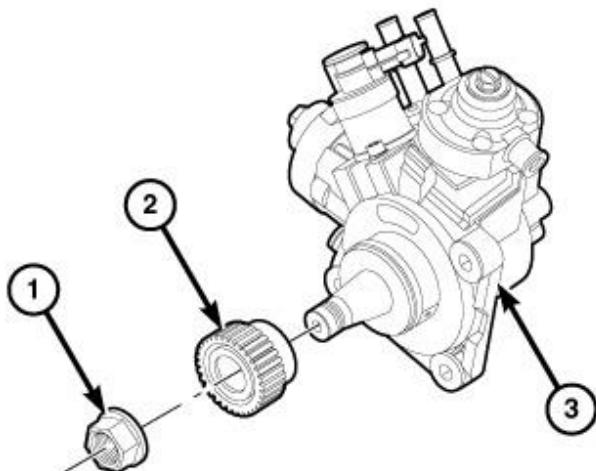

Figure 65 - Gear Removal and Installation
NOTE: The use of Puller 1023 or a commercially available gear puller is required to remove the fuel injection pump gear (2) (Figure 65).
20. If removed, install the gear (2) and nut (1) onto the fuel injection pump (3) and tighten the nut (1) finger tight (Figure 65).